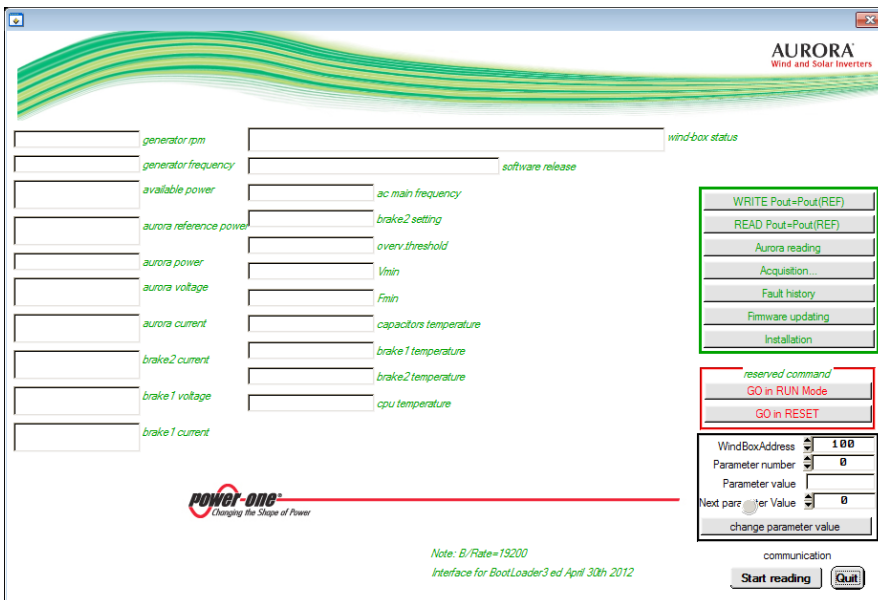

Figure 1
- 11) After installation, open software WindBoxCVI. The main menu is shown in fig. 1.